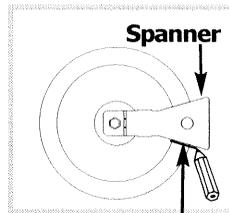

Fig. 2
- ⇨ With a pencil draw a line on the hearth plate as indicated (**fig. 2**).